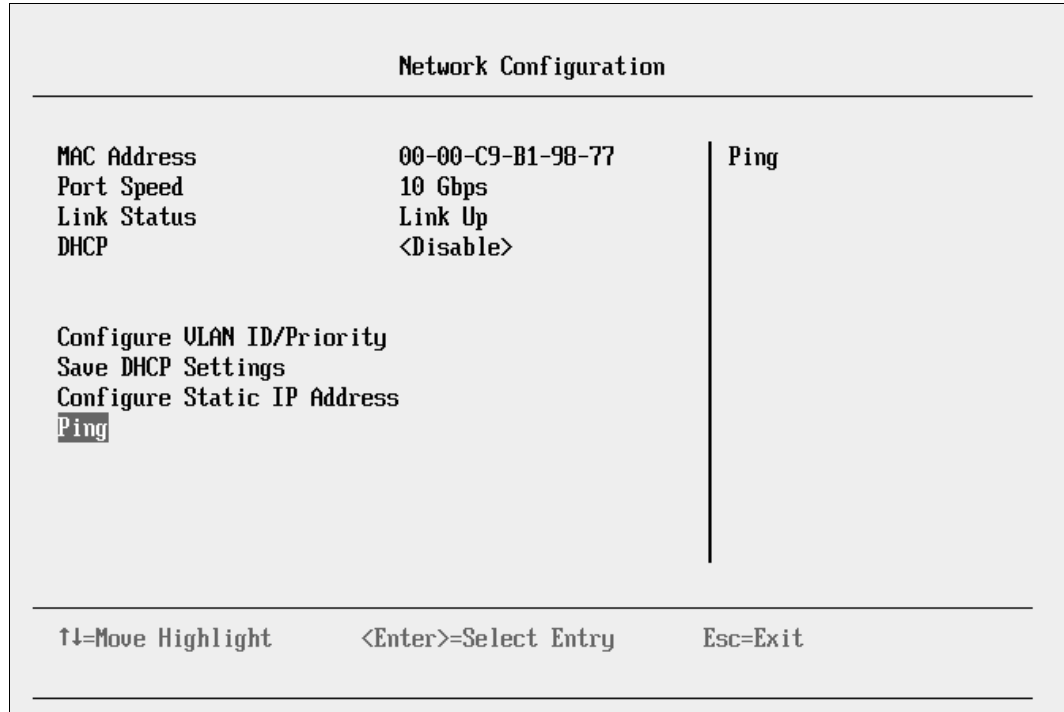

Figure 9-78 Selecting Ping from the Network Configuration panel
8. Perform a ping test. In the Network Configuration panel (Figure 9-78), select **Ping**.